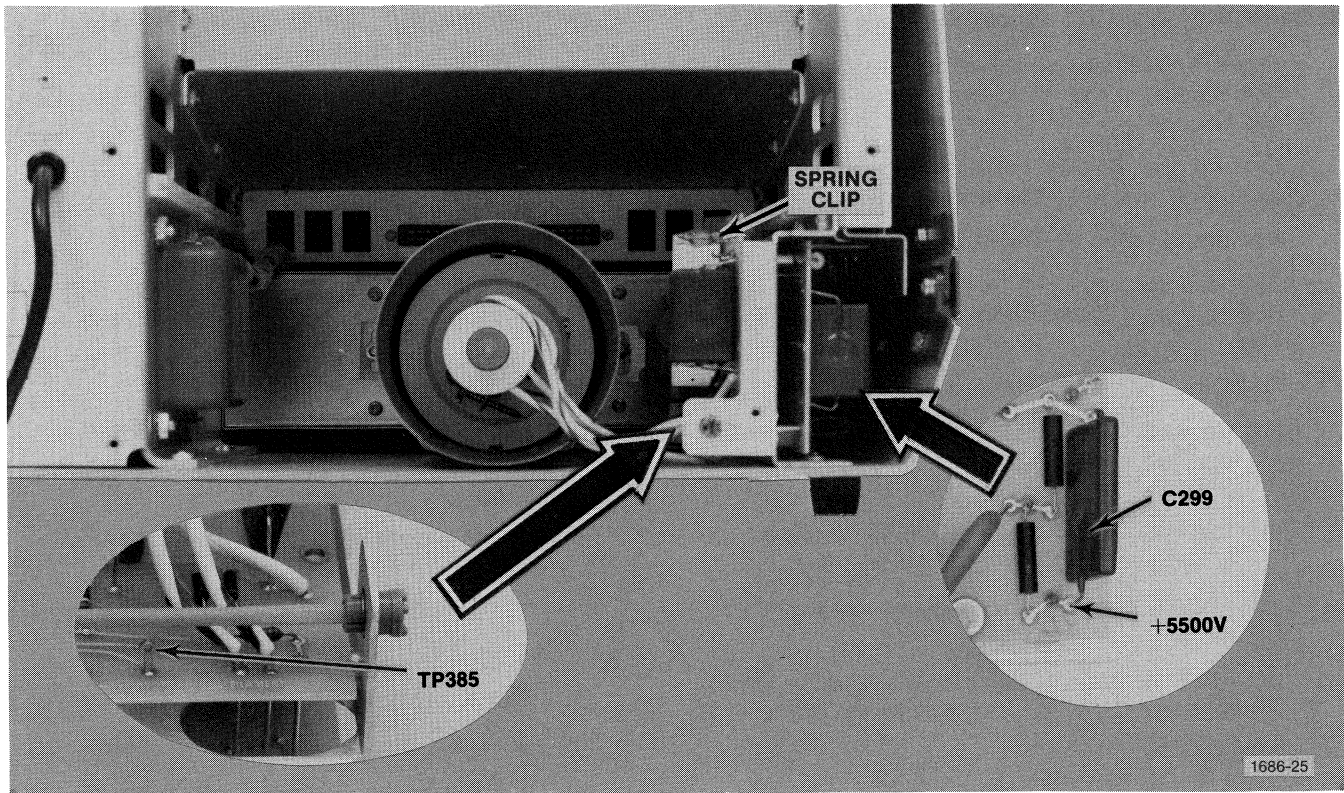

Fig. 4-2. Z axis input ground location.
- b. Ground the Z axis input in the High Voltage assembly (spring contact). See Fig. 4-2.
- (1) Connect the Precision DC Voltmeter between the +15 volt test point (+ end of C449) and ground.
- (2) CHECK—The output voltage should be between +14.85 and +15.15 volts.
- (3) ADJUST—R545 for a voltmeter reading of +15 volts.
- (4) INTERACTION—Operation of all circuits within the Hard Copy Unit may be affected by the +15 volt supply.
h. Check or Adjust High Voltage Supplies (Fig. 4-2 and 4-3). Refer to Section 3 for Protection Shield Removal, left side.